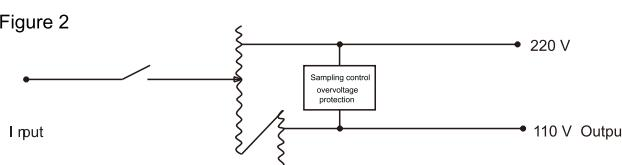

Figure 4
- See Figure 4 for the electrical schematic diagram of single-phase voltage regulator;